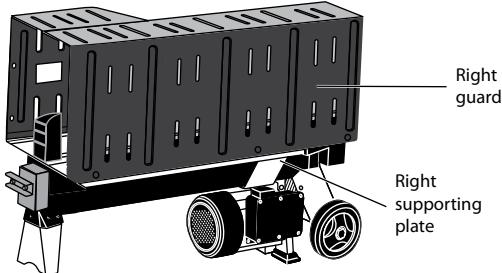
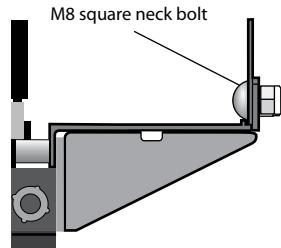
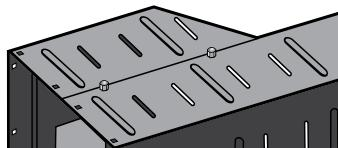

Fig. 2a
Fig. 2b
Fig. 2c
4. Insert the right guard into the groove of the right supporting plate, ensure that the holes of the right guard are aligned with the holes of right supporting plate, use 3 pcs. of M8 square neck bolts and 3 pcs. locknuts to fix (Fig.2a, Fig.2b). Then use 2 pcs. of M8 square neck bolts and 2 pcs. locknuts to connect the right guard and left guard together (Fig.2c).